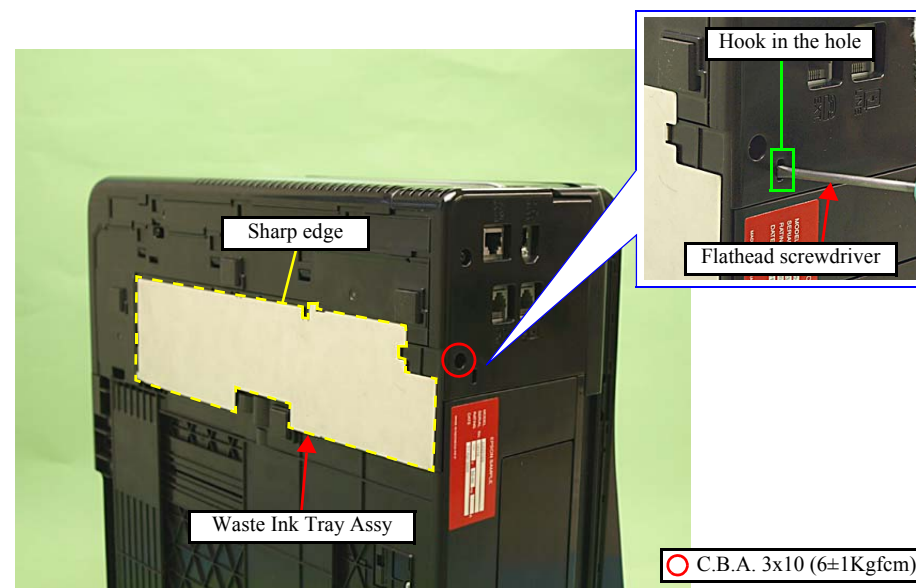
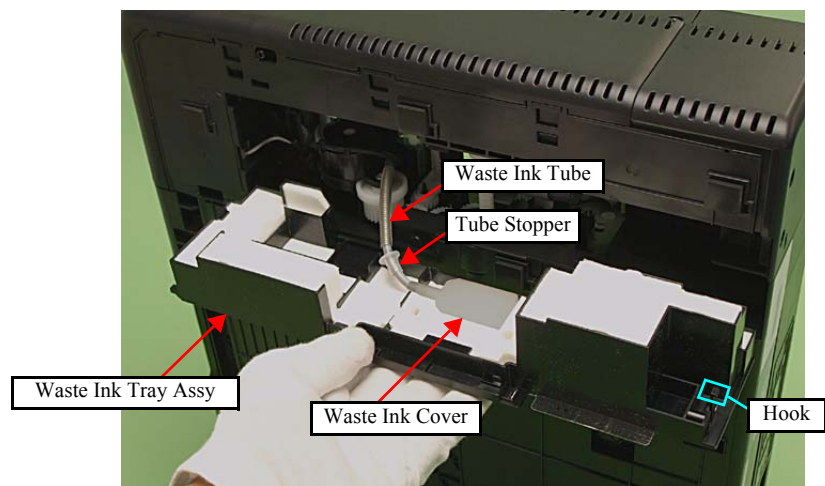
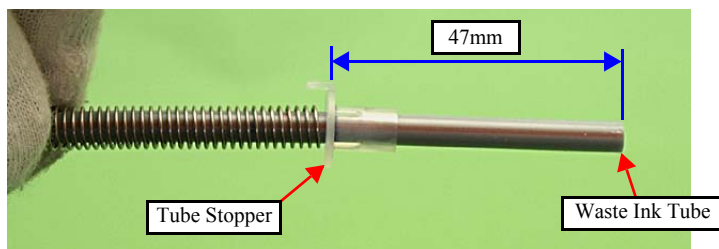
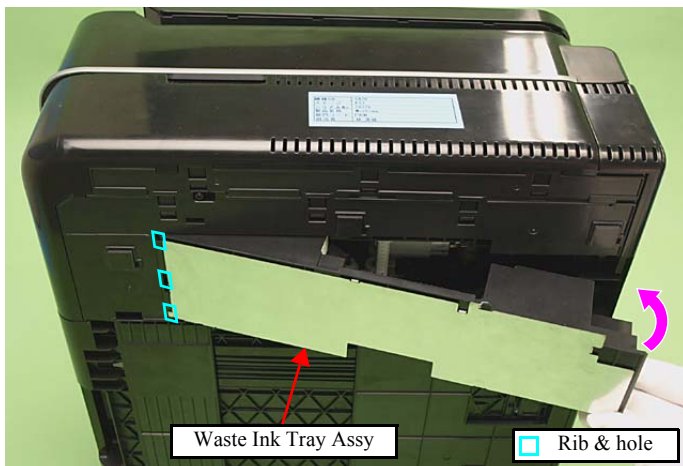

Figure 4-154. Removing the Waste Ink Tray Assy (1)
Figure 4-155. Removing the Waste Ink Tray Assy (2)
Figure 4-156. Attaching the Waste Ink Tube
Figure 4-158. Installing the Waste Ink Tray Assy
1. Remove the screw (x1). (See Fig. 4-154.)
2. Insert the flathead screwdriver to the hole of the Rear Right FAX Housing to release the hook (x1), and remove the Waste Ink Tray Assy. (See Fig. 4-154, Fig. 4-155.)
Following the standard below, attach the Tube Stopper to the Waste Ink Tube, and insert the tube properly to the hole of the Waste Ink Cover. (See Fig. 4-155, Fig. 4-156.)
- Align and insert the ribs (x3) of the Waste Ink Tray Assy to the holes (x3) of the Base Frame, and secure the assy with the hook (x1) and screw (x1). (See Fig. 4-154, Fig. 4-155, Fig. 4-158.)